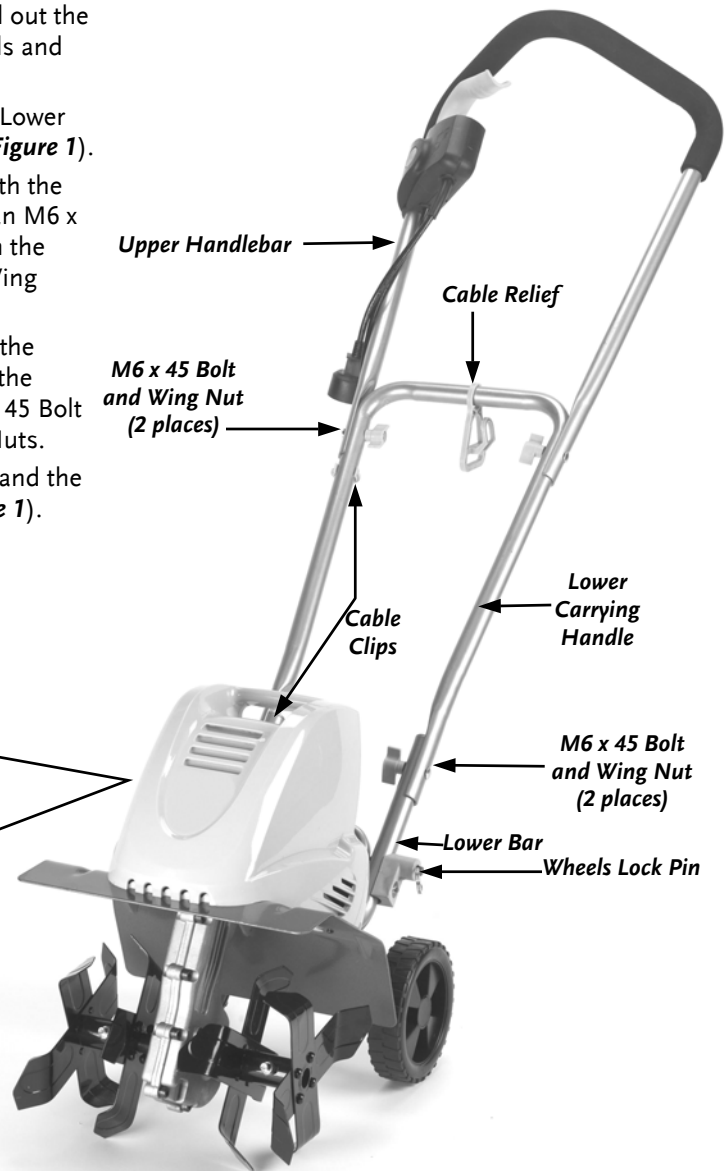

Figure 1
1. Push in the GREEN Wheels Release Button (**Figure 1**), pull out the spring loaded Wheels Lock Pin (**Figure 1**), lower the Wheels and release the Pin to lock the Wheels in the down position.
2. Place the round hole in the Cable Relief on one end of the Lower Carrying Handle and position the Cable Relief as shown (**Figure 1**).
3. Align the mounting holes in the Lower Carrying Handle with the holes in the Lower Bar section (**Figure 1**) and attach with an M6 x 45 Bolt and Wing Nut both sides. Insert the Bolts through the aligned holes from the outside. Do not over tighten the Wing Nuts.
4. Position the Upper Handlebar as shown (**Figure 1**). Align the mounting holes in the Upper Handlebar with the holes in the Lower Carrying Handle (**Figure 1**) and attach with an M6 x 45 Bolt and Wing Nut both sides. Do not over tighten the Wing Nuts.
5. Snap the (2) Cable Clips on to the Lower Carrying Handle and the Lower Bar to hold the Power Control Cable in place (**Figure 1**).
1. Make sure the Wheels Lock Pin (**Figure 1** on page 4) is securely in place with the Wheels locked down before transporting the Tiller to the sight that you plan to till.
3. Pull out the Wheels Lock Pin and raise the Wheels until the spring loaded Wheels Release Button (**Figure 1** on page 4) retains them in place.